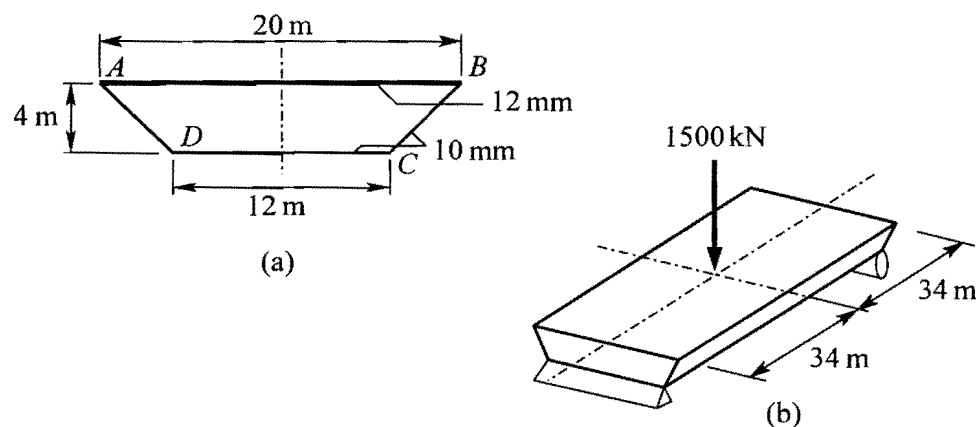

Figure 1
- * 4. Figure 1(a) shows one cross section of a steel box-girder bridge. The box is thin-walled, the top flange plate AB is 12 mm thick, and the wall thickness elsewhere is 10 mm. All plate thickness are smeared thicknesses to account for the presence of longitudinal stiffeners (not shown).
A uniform length of bridge, spanning 68 m, is simply supported, as shown in Figure 1(b). In addition to the self-weight, an exceptional load of 1500 kN is concentrated at the centre of the bridge.